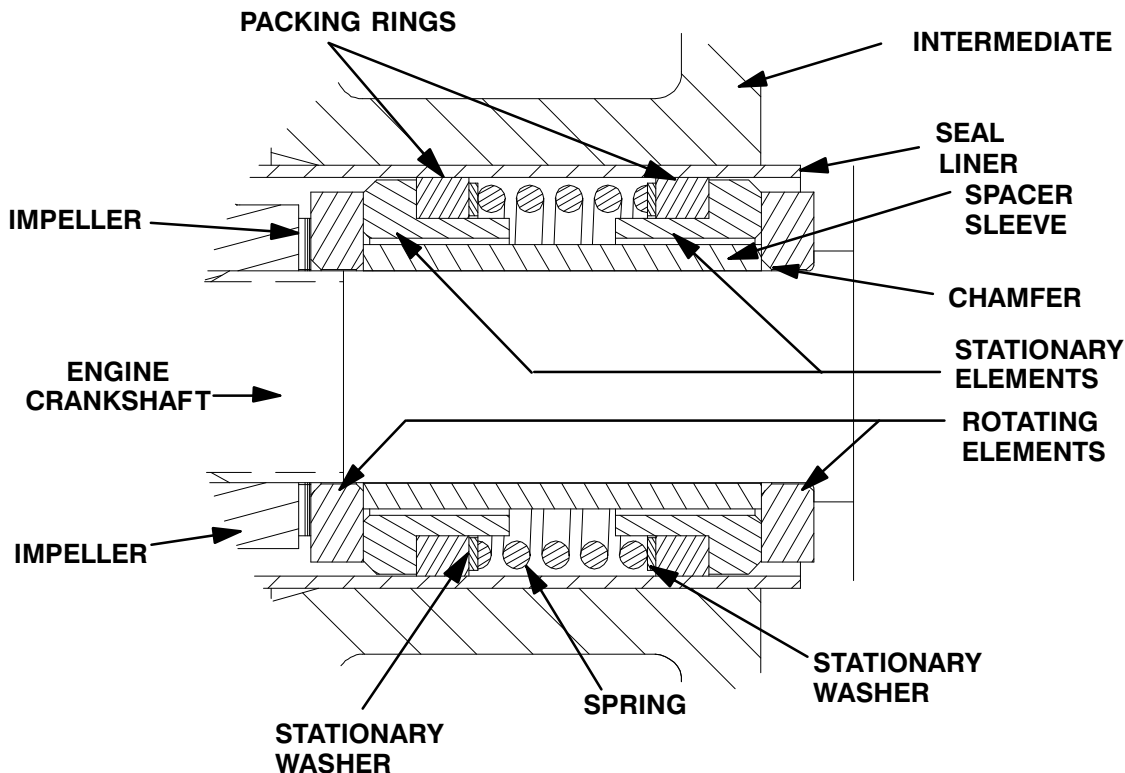

Figure 4. Seal Assembly
Before removing the impeller, turn the cross arm on the automatic grease cup (14) clockwise until it rest against the cover (see Figure 4). This will prevent the grease from escaping when the impeller is removed. Remove the grease cup.
To ease installation of the seal, lubricate the packing rings and seal liner with water or a very **small** amount of oil, and apply a drop of light lubricating oil on the finished faces. Assemble the seal as follows, (see Figure 4).